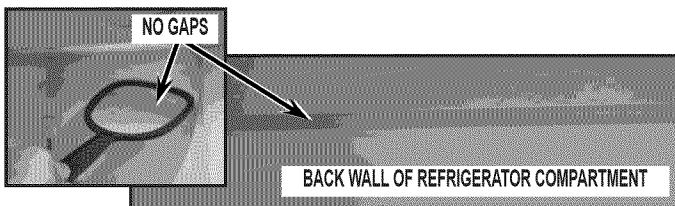

FIGURE 25
31. Using an inspection mirror, inspect seal at back of ice box to verify there are no gaps. See *Figure 25*.